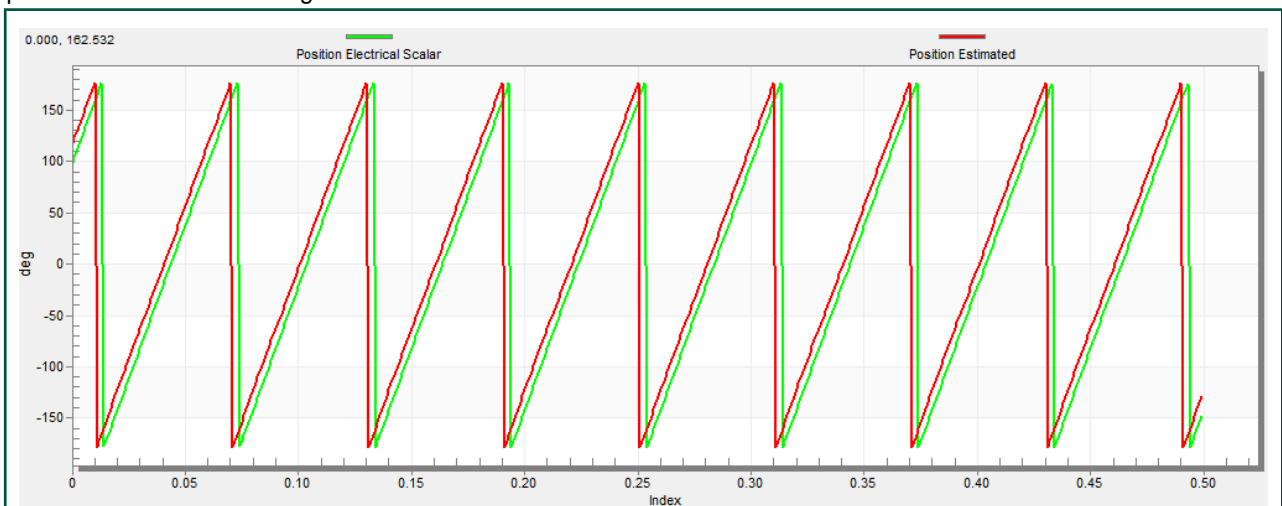

Figure 28. Generated and estimated positions
6. Select the “Position” recorder to check the observer functionality. The difference between the “Position Electrical Scalar” and the “Position Estimated” should be minimal (see Figure 28) for the Back-EMF position and speed observer to work properly. The position difference depends on the motor load. The higher the load, the bigger the difference between the positions due to the load angle.